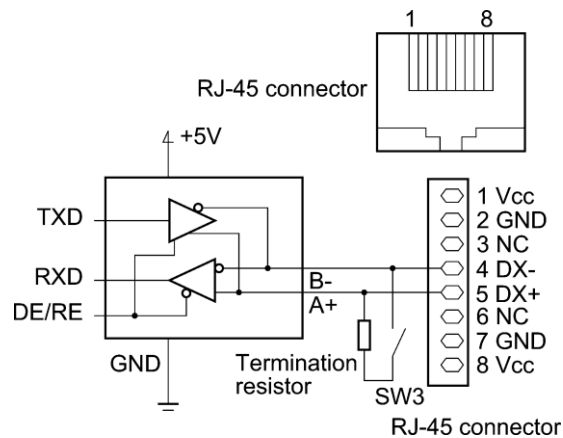

Figure 1.3 Pin Assignment of communication port 1 (Standard RS-485 Port and RJ-45)
- The RJ-45 connector on the inverter has pins to which the keypad power is assigned for remote keypad operation. Do not use these pins when connecting any other equipment to the RJ-45 connector. (See Figure 1.3 on the next page.)
In order to facilitate connection to a standard RS-232C–RS-485 converter, the inverter's RS-485 port is designed to be compliant with the standard 4 pairs signal line pin assignment for the RJ-45 connector, where a pair of signal lines DX- and DX+ are assigned to #4 and #5 pins as shown in Figure 1.3.